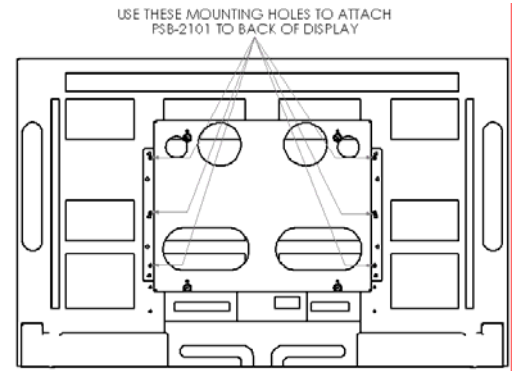

Figure 4
3. Align hole pattern on brackets with pattern on back of Plasma Display and attach using the M5 button head cap screws (see Figure 4).